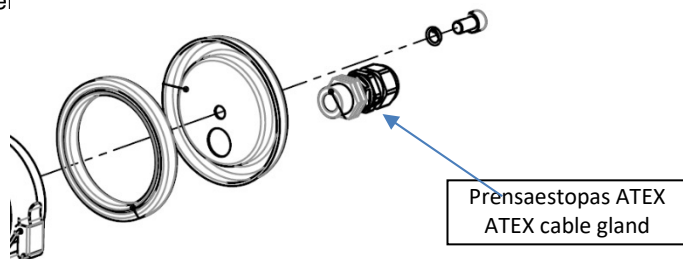

FIG 2.
- Retire the screws that close the closingcap (See fig.2). Open the cap.